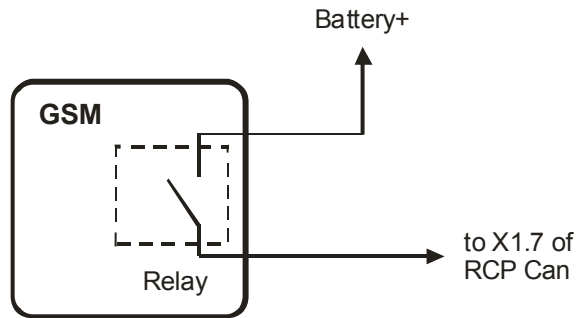

Figure 8
- Some GSM modules control additional device by the means of embedded relay. These may be connected to RCP using the scheme at the fig.8